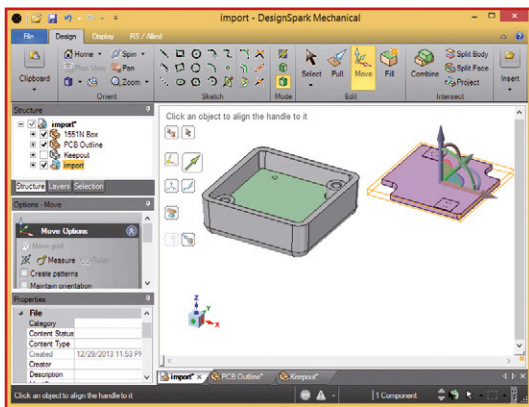

Figure 1. Imported board outline.
Now let's import the IDF into our DesignSpark Mechanical model using the file import tool (Insert tab->File) and you should get something like **Figure 1**. DesignSpark has already selected the board outline for us so now we just need to move it to the right position in the enclosure. This is really easy in our case
A traditional UJT is a 3-pin device with a single (!) PN junction inside. Its construction, circuit symbol and basic circuit arrangement are shown in **Figure 1**. Two of the pins are used for the base connection and are labelled B1 and B2. They connect to either side of a bar of N-type silicon with a well of P-type silicon in it for the third connection called the emitter (E). When the UJT is off there's a resistance between the base pins, and the emitter acts as a diode. The base construction acts as a voltage divider for the diode so that no current will flow into the emitter until the voltage exceeds the internal base voltage. Once the emitter voltage increases enough to start conducting, the UJT will switch on and create a low resistance path between the emitter and B1. This switching point is called the peak voltage
The result can be seen in **Figure 1** and requires little explanation. There are two timers, which are connected in series. The first timer (IC1A) is configured as an astable multivibrator, with a period of about 270 s. The components R1, R2 and C1 are used to set this time. By using the previously mentioned 1 G Ω resistor for R1, it is sufficient to use a capacitor of only 0.39 μ F to achieve this period. The second timer (IC1B) has been implemented as a monostable multivibrator.